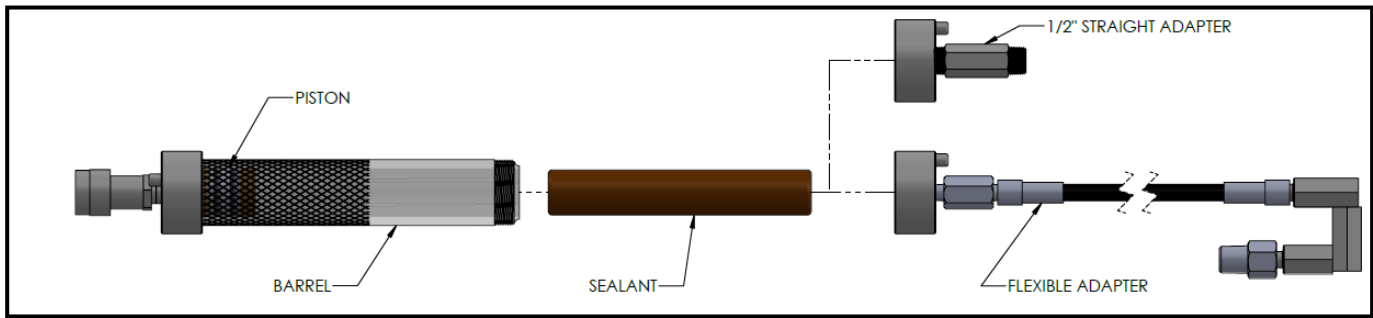

Figure 8
- 3.) Once the piston has been pushed to the bottom of the barrel, insert the selected sealant. Screw on the 1/2" straight adapter, or the flexible hose adapter. Proceed to injecting sealant. When the barrel is empty repeat step 2 and 3 to load more sealant. (See Figure 8)